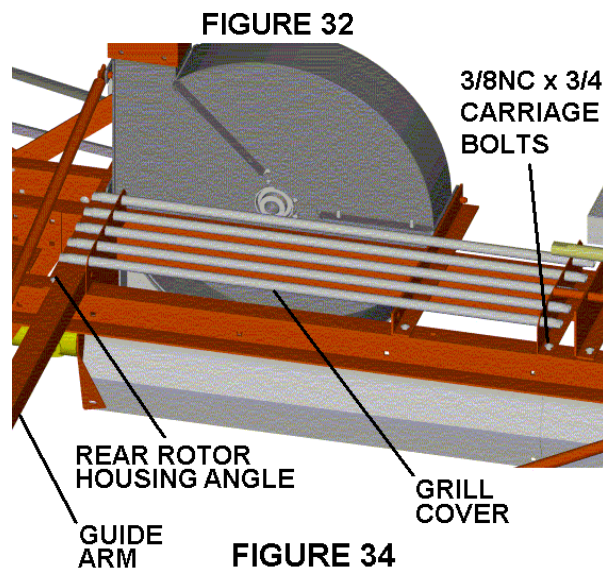

FIGURE 34
3. Bolt the top grill cover assembly across frame channels between the rear rotor mounting angle and the front ring drive support with 3/8" x 3/4" carriage bolts and whiz nuts. See Figure 34.